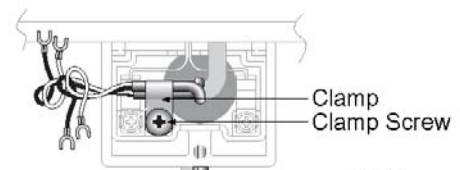

Fig.3
10. Loosen the clamp screw and secure wire cable with clamp. The clamp is in the box with the temperature controller. Make sure the length of the wire is long enough. There should be no tension in the wire. (Fig. 3)